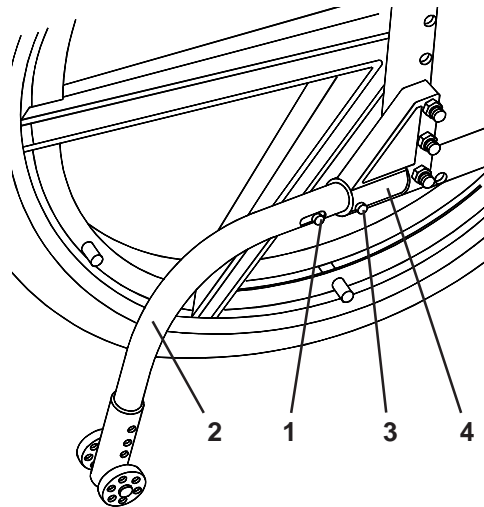

Fig. 22a
Press the rear anti-tip release lever (1) on the anti-tip tube (2) so that both locking pins (3) are drawn into the tube, and insert it into the anti-tip tube receiver (4). Ensure the two locking pins are located and locked into the receiver mounting holes (Fig. 22a).